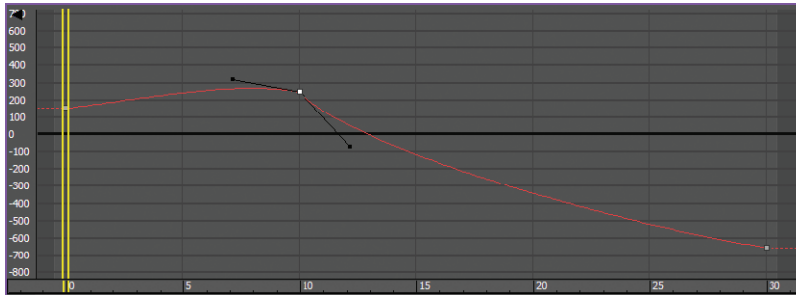

FIGURE 6.12 To create a believable anticipation for the knife throw, set your curve to resemble this one.
9. Press Shift and drag the tangent handle down to create a curve that is similar to the one shown in Figure 6.12.